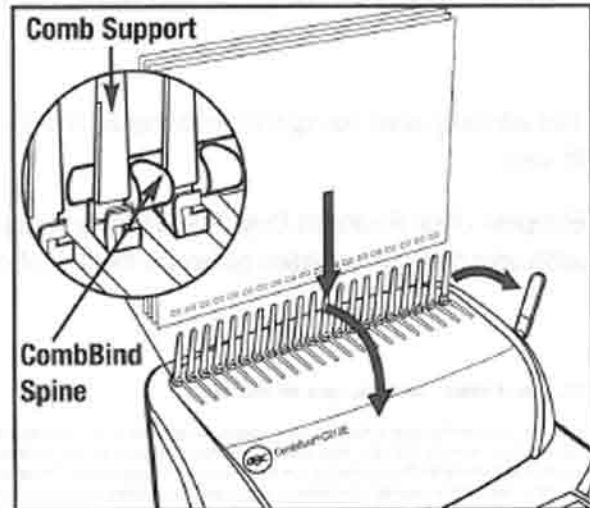

Figure 4
B. BIND DOCUMENT (see Figure 4)